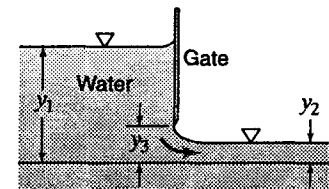

Figure X6.4.2
6.4.2 Find the horizontal thrust of the water on each meter of width of the sluice gate shown in Fig. X6.4.2, given $y_1 = 2.2 \text{ m}$, $y_2 = 0.4 \text{ m}$, and $y_3 = 0.5 \text{ m}$. Neglect friction.